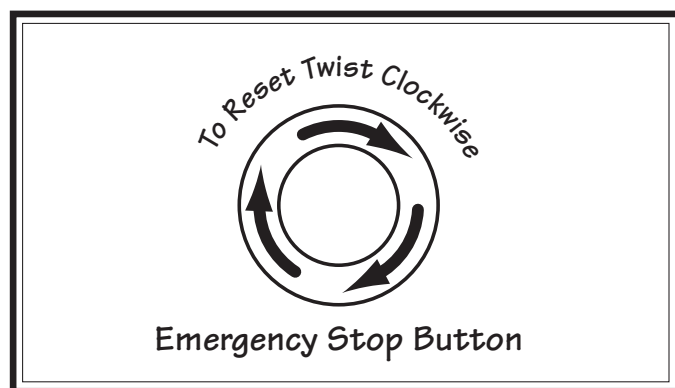

Figure 13. Emergency Stop button.
2. Press Emergency Stop button (B) in.
3. Turn Conveyor Speed Control dial (C) to "0".
4. Connect machine to power source. Digital readout (A) should illuminate.
5. Twist Emergency Stop (B) button clockwise until it pops out to reset switch (see **Figure 13**).